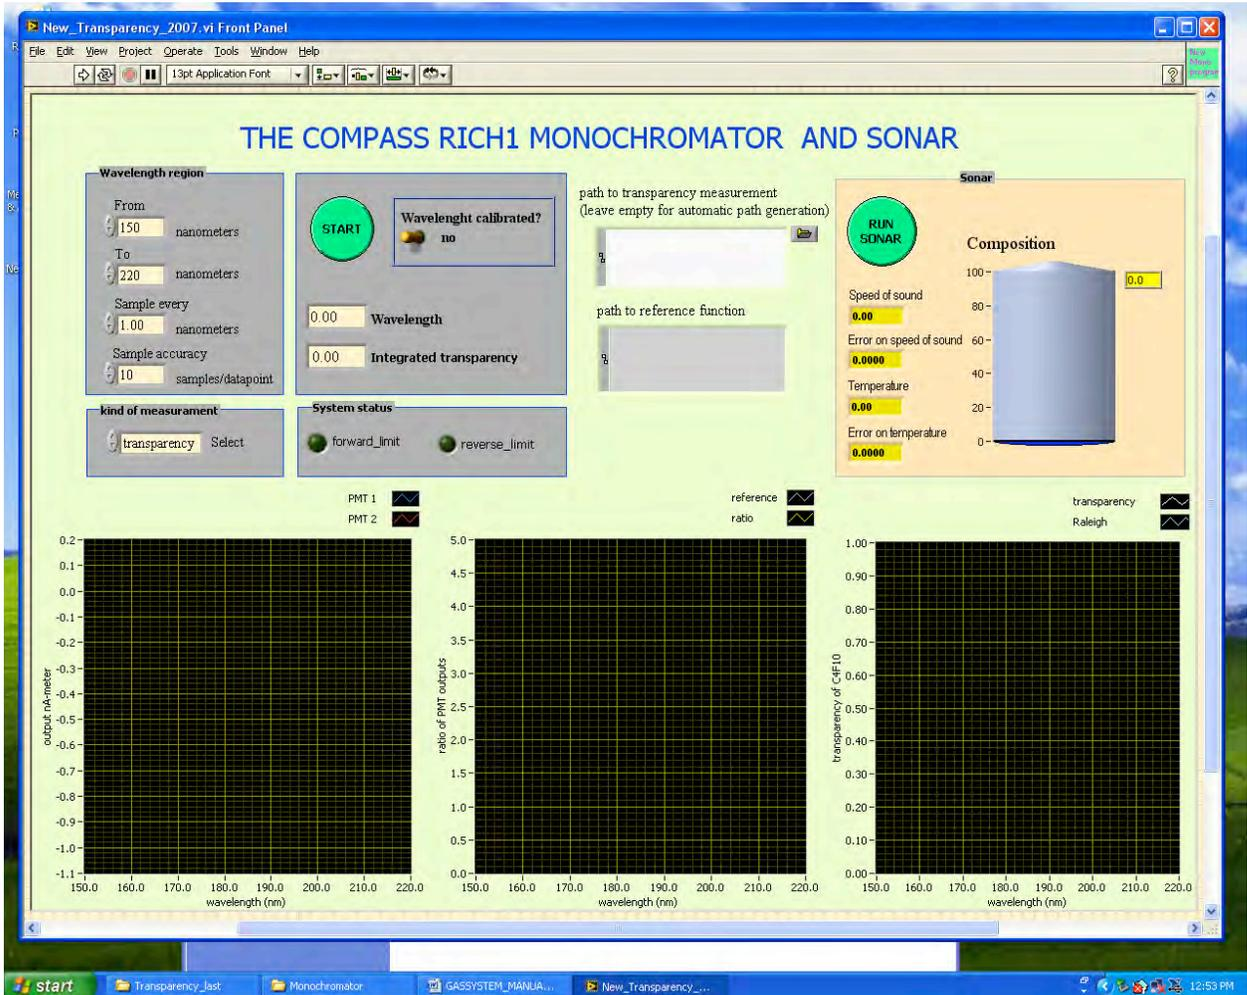

Figure 4.1: Main Monochromator and Sonar Application Program
3.- Press the START green button of the monochromator dialog window as is shown in the left part of the main window application in figure 4.1.
The figure 4.1, shows the view of the Main Application Program Interface (API) that control both Systems. The Monochromator System on the left of the screen where is possible to set the parameters for the measurement and to the right side there is a display of the values reported for the Sonar System.
There is a switch to put ON or OFF the possibility of calibrate the monochromator. At the startup the Application program has the calibration option set OFF (set “NO” in the dialog) by default as is shown in figure 4.1.
- 4.- At the end of this procedure the main application will change color of the **START** button as is shown in figure 4.1 just continue working normally.